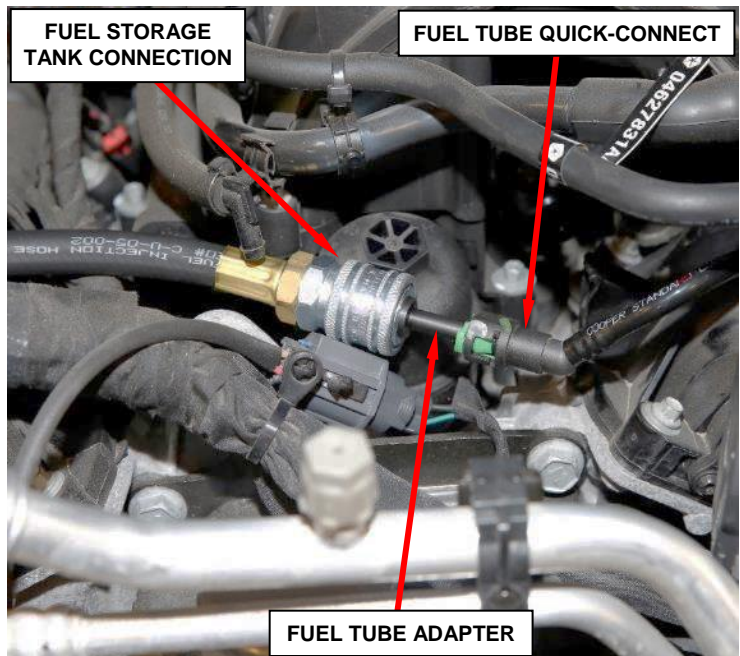

Figure 9 – Fuel Tube Adapter Connected (3.6L Shown 5.7L Similar)
11. Install the appropriate fuel tube adapter fitting to the fuel supply tube (Figure 9).
12. Connect an OSHA approved fuel storage tank such as the John Dow Gas Caddy 320-FC-P30-A or equivalent to the fuel tube adapter fitting (Figure 9).